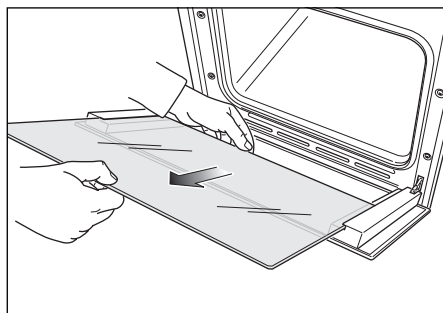

Fig.40e
- Gently pull out the inner pane of glass (Fig. 40e).